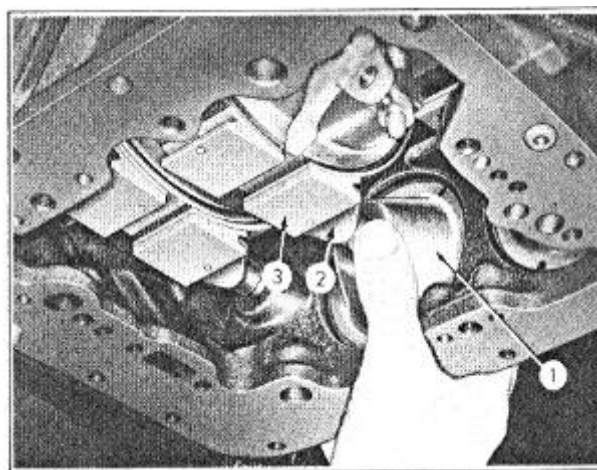

FIGURE 82
3. Remove the low servo inner piston assembly by placing the thumb against the piston spring retainer and push the piston out of the case, Figure 82.